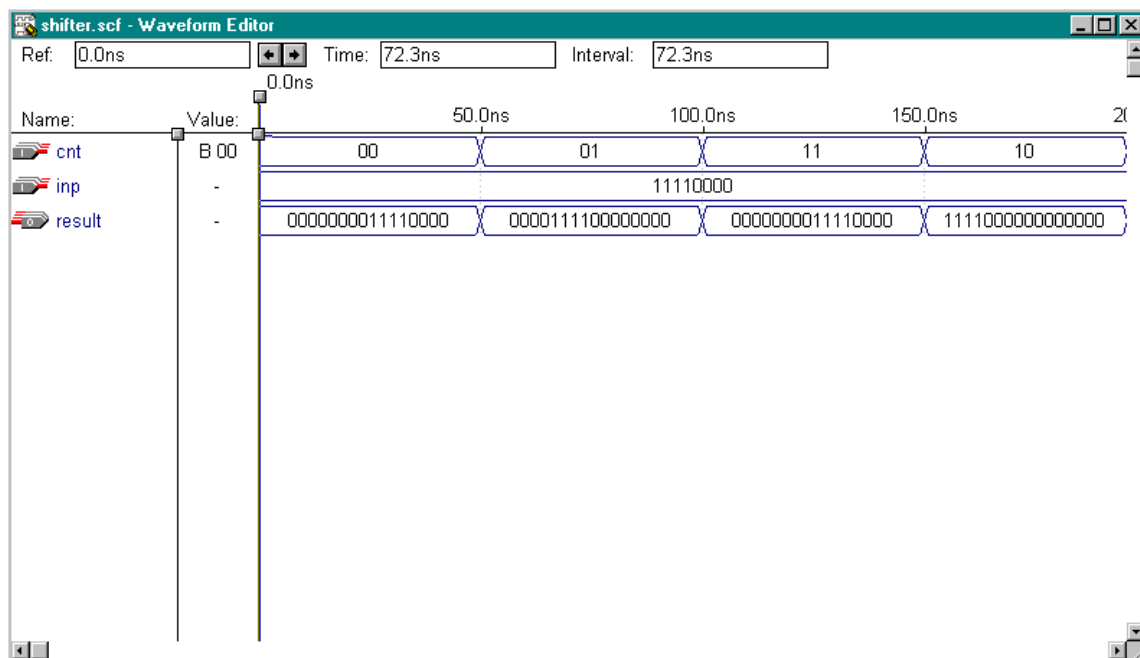

Figure 2-2b.
5. Check to see if you get the same results shown in Figure 2-2b.